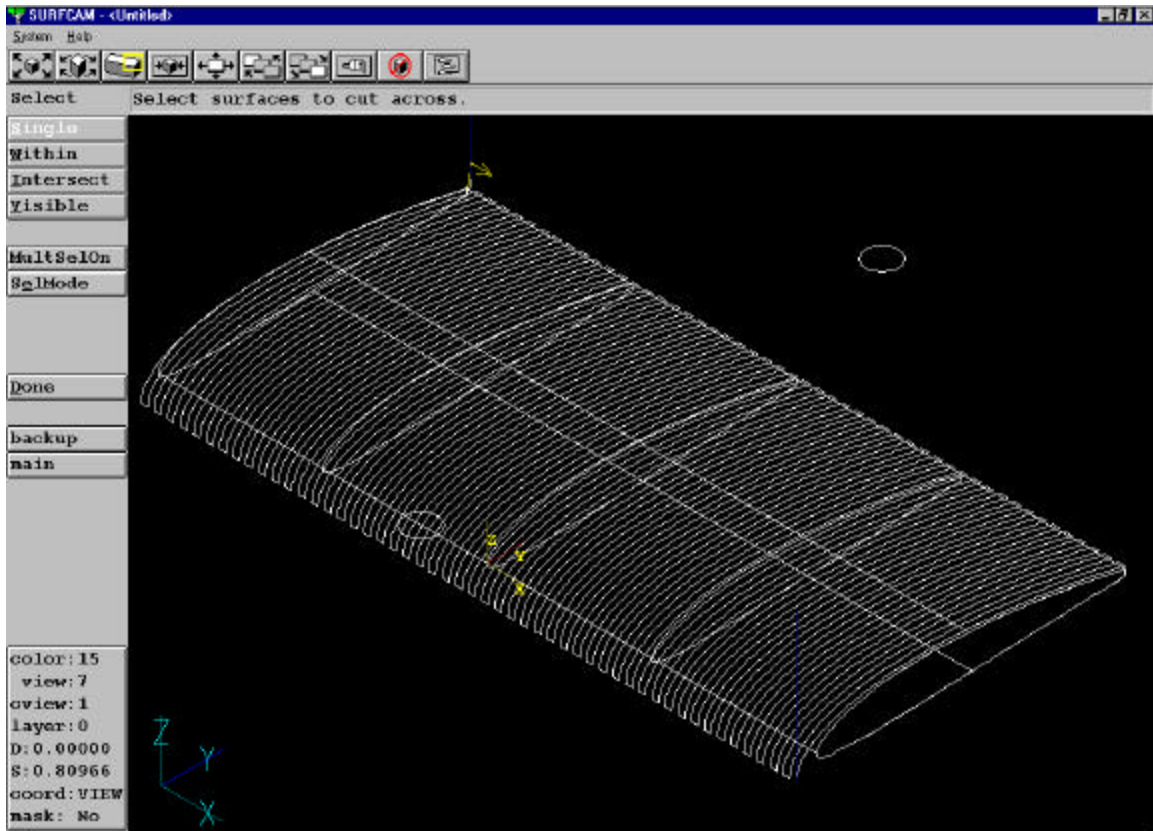

Figure 17: Tool path for top surface of wing
- 10.) After a very brief processing time, a tool path will begin to appear on the screen, over the surface you defined. At the end of this tool path, you will be asked if you would like to accept or reject the path. Choose ACCEPT. This completes the tool path generation for the upper surface of the wing. Figure 17 shows the tool path for the top of the wing (note: tool paths for the alignment holes have been hidden to allow full view of the surface cuts).
- 2.) A flowchart will be visible with the different sections of tool paths listed (see figure 17 earlier in the lab). Each of the surfaces of the wing will be labeled '3Axis Planar', and the alignment holes will be labeled '2Axis Pocket'. It is necessary to verify the cuts that were generated earlier by running the verification program built into SurfCAM. Highlight 'Setup One' on the flowchart. Press the 'Run SURFCAM Verify' button, , located next to the stopwatch symbol on the Operations Manager toolbar.